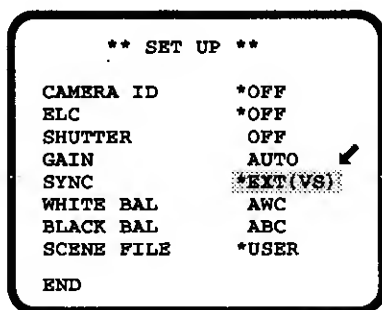

Fig.34.
- Supply the composite sync or black and white composite video signal to the Gen-lock Input Connector (20) and confirm that the "INT" position has been changed into the "EXT (VS)" indication as shown in Fig.34.